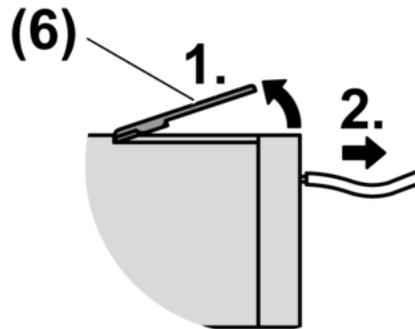

Figure 5: Releasing plug terminal
- Raise release lever (6) as described in illustration and pull out connecting wire (Figure 5).